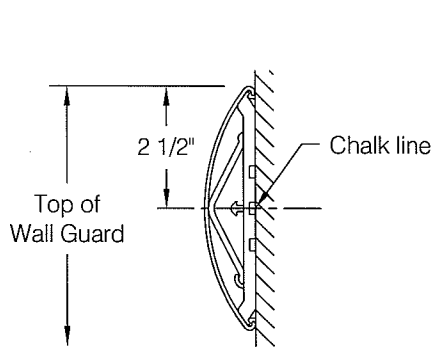

fig 1
Step 1: Determine top of wall guard height and snap a chalk line 2 ½" below to locate centerline of wall guard and to provide a reference line for locating WG-5C Red-E-Clip® retainers, see **fig 1**.